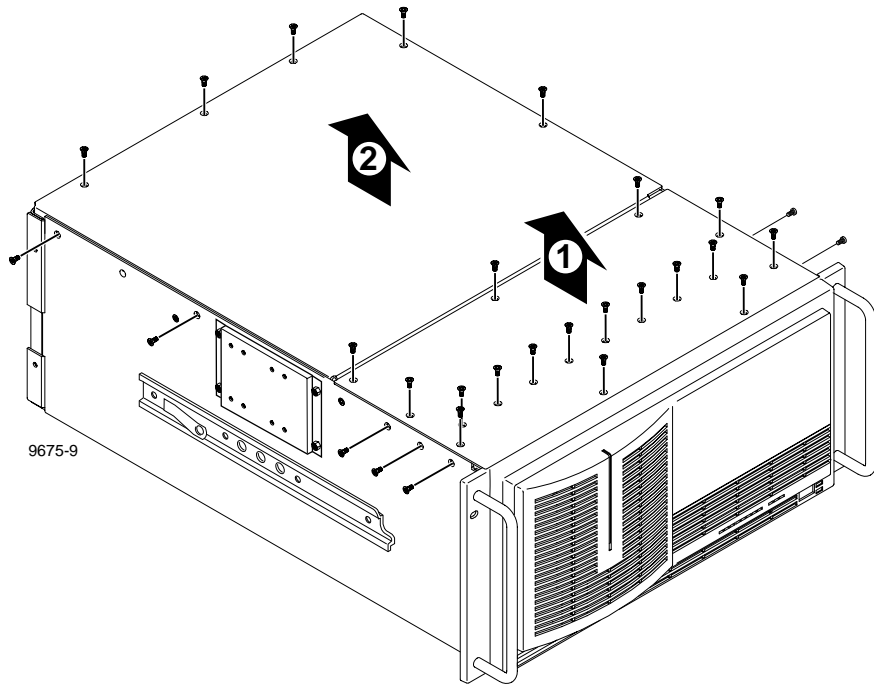

Figure 1. Removing the Top Covers
Figure 1 shows chassis cover screws for a PDR200. On a PDR100, the screws in the center of the top front cover may not be present. To remove the chassis covers:
3. Use the Torx tool with the T10 tip to remove the front chassis cover (❶ in Figure 1) which covers the fans and disk drives. The front cover must be removed first because it overlaps the rear cover.
4. Use the Torx tool with the T10 tip to remove the rear chassis cover (❷ in Figure 1) which covers the circuit boards.